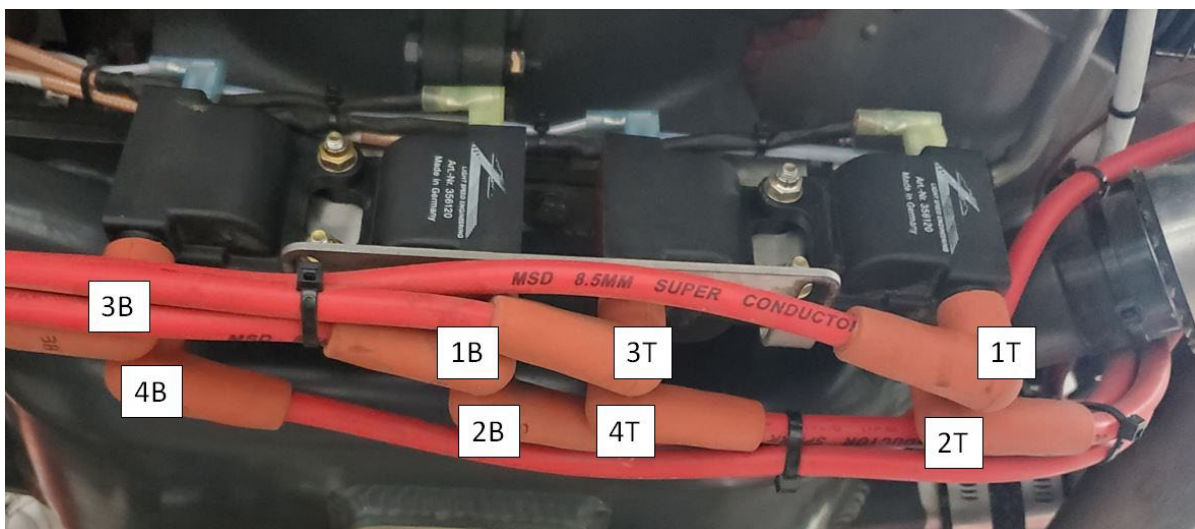

FIGURE 2 – SPARK PLUG AND IGNITION WIRE LABELING
5. Label each spark plug wire and corresponding ignition wire (the spade connection opposite each spark-plug wire stud) as shown in Figure 2. Then remove the spark plug wires and ignition wires from the ignition coils.